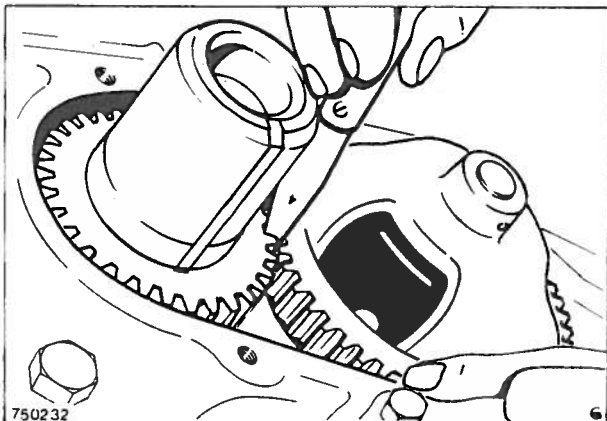

Fig. 33 Checking the backlash of the oil pump drive gears
17. Turn the engine on the stand so that the front is uppermost. Check the backlash between the oil pump and crankshaft gears – see Fig. 33. The backlash should not exceed the specified limits. Refit the oil pump cover using a new gasket.